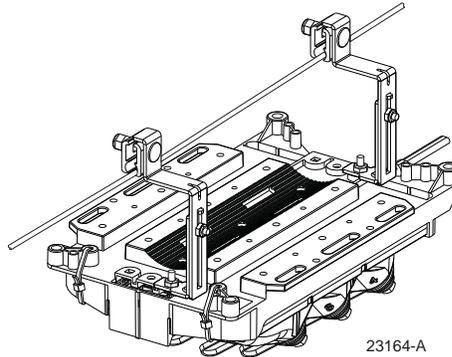

Figure 9. Strand-Mount Installation
- **Strand-Mounting** (aerial) – A strand-mount bracket kit (MST-ACC-M02) is available for aerial mounting the MST from an overhead strand as shown in Figure 9. The brackets mount on the UMB and are then clamped to the strand. The MST snaps into the UMB.